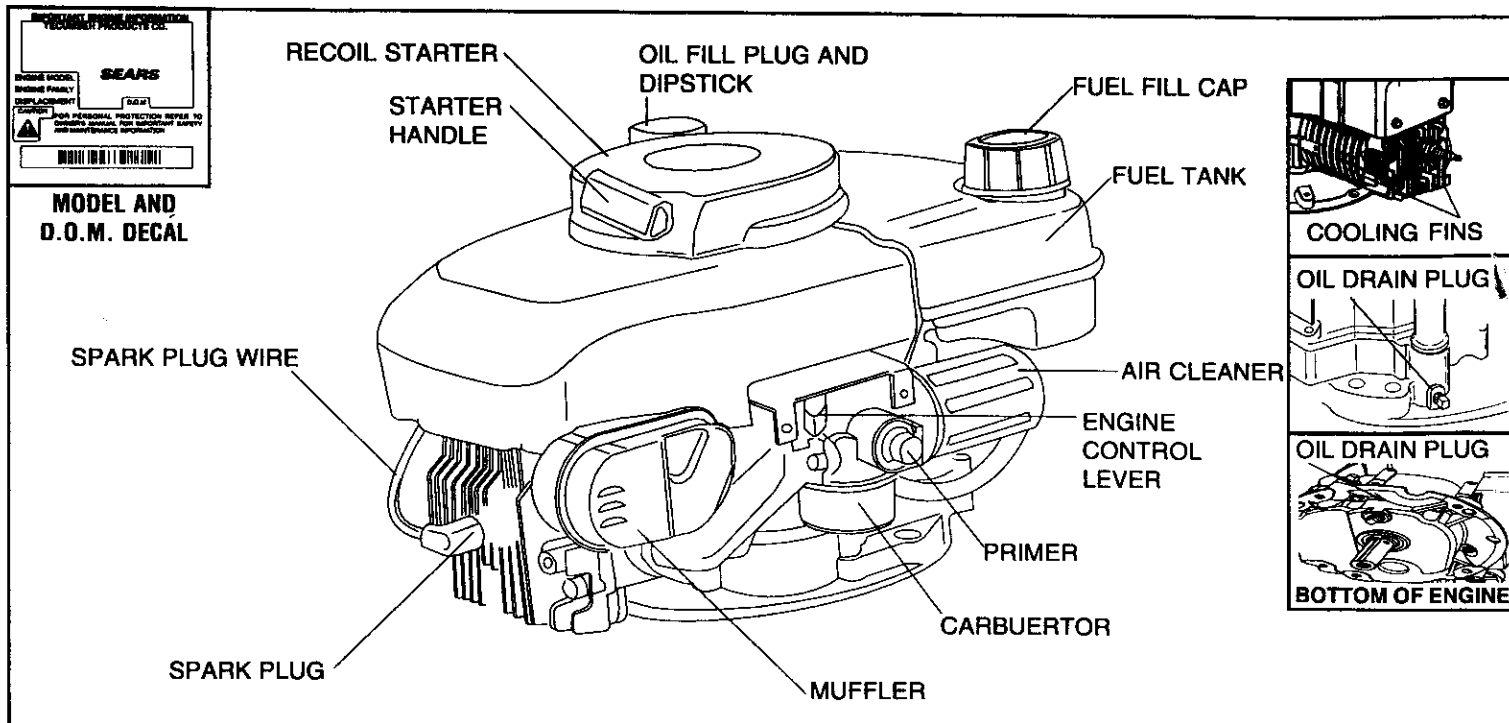

Figure 1
- B. Clean area around oil fill plug (see Figure 1).
⑤ CHECK THE FOLLOWING:
- B. Be sure spark plug wire is attached to spark plug (see Figure 1).
① Move engine control (see Figure 1) to HI Position.
② START ENGINE WITH PRIMER:
2. The carburetor on your engine has been completely adjusted at the factory. When starting a cold engine, push primer button **firmly with your thumb 3 times**, allowing primer bulb to return completely to original position between pushes (figure 1). Below 55°F additional primes may be needed.
- C. Remove oil drain plug and oil fill plug to drain oil (see Figure 1).